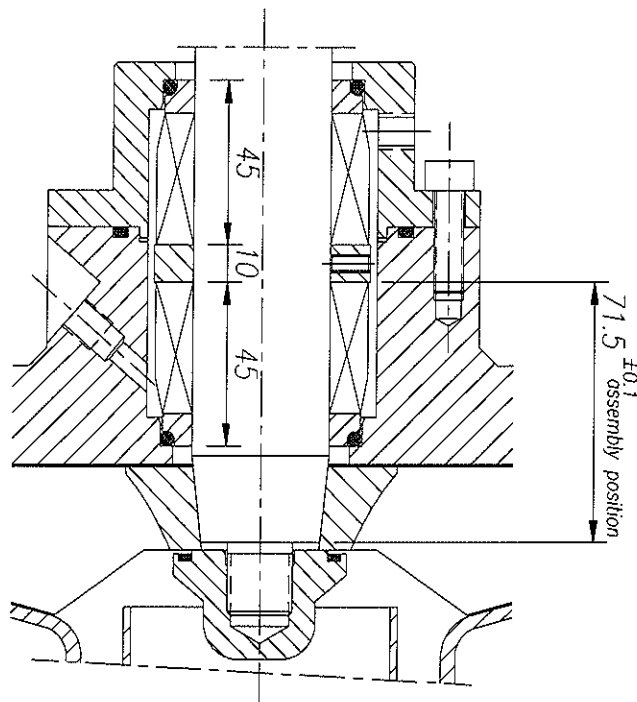

Figure 8.4 : Cooled mechanical seal
- Place the stationary part of the external mechanical seal (57) in the housing for the bottom cover (58).
- Assemble the bottom cover (58) inside the shaft (10) supporting it on the shaft ledge, but do not remove the housing seating from the cover (58).
- Insert the rotating part of the external mechanical seal (78) into the shaft (10).
- Assemble the end ring (79), mount it at the height indicated in Figure 8.4.
- Slide the rotating part of the internal mechanical seal (51) over the shaft (10).
- Put the stationary part of the internal mechanical seal (53) into the top cover housing (2).
- Carefully assemble the top cover (2) over the support (1).
- Bring the holes for the two covers (2, 58) face to face, put the allen screws (20) into the cover (58) and tighten the 4 screws one after another until contact is made with the top cover (2).